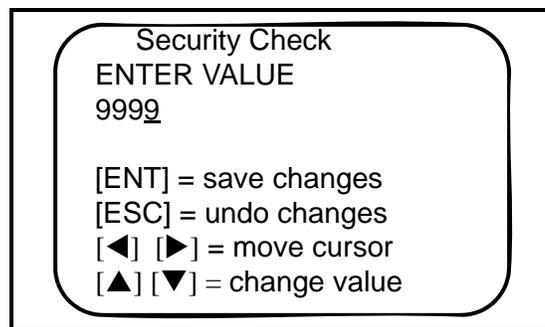

Figure 30: Security Check Window
1. Press [ESC], [ENT], [ESC]. A Security Check window, similar to Figure 30 below, opens.